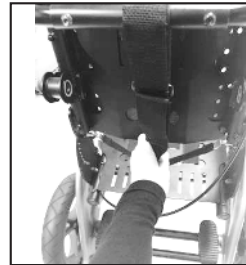

Fig. 48
4. Grab the pull strap on the center of the recline cord. Fig. 48